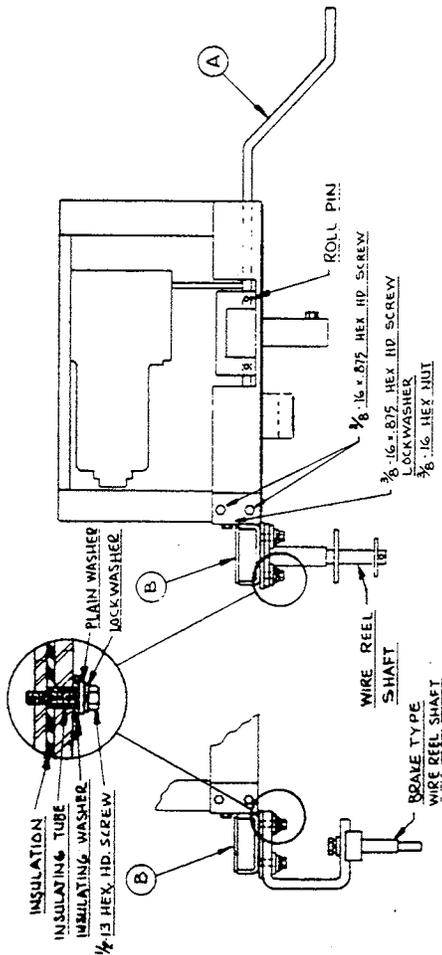
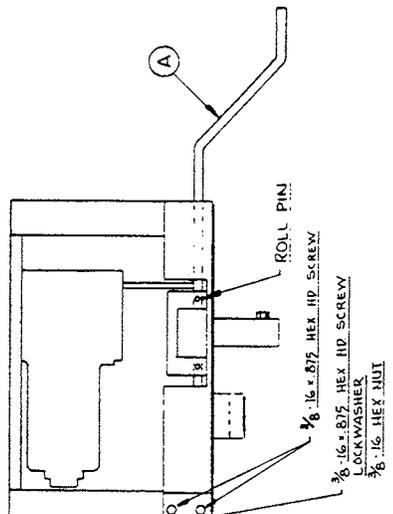

Fig. 2
Fig. 1
- A. Insert the clutch handle (A) thru the hole in the right hand side of the carriage. Push the handle thru the carriage frame until the end goes into the lift yoke. Line up the roll pin hole in the yoke & crank and then insert the roll pin, which is shipped taped to the crank handle. Drive the roll pin until it is flush with yoke arm surface.
- B. Install the wire reel mounting bracket (B) to the upper left front corner of the carriage using the hardware supplied. For LAF-3, -4, -5, install wire reel shaft, supplied with the head, per Fig. 1. For MA-3 & MA-4, install wire reel shaft, supplied with the head, per Fig. 2. In either case, wire reel shaft must be electrically isolated from carriage frame.